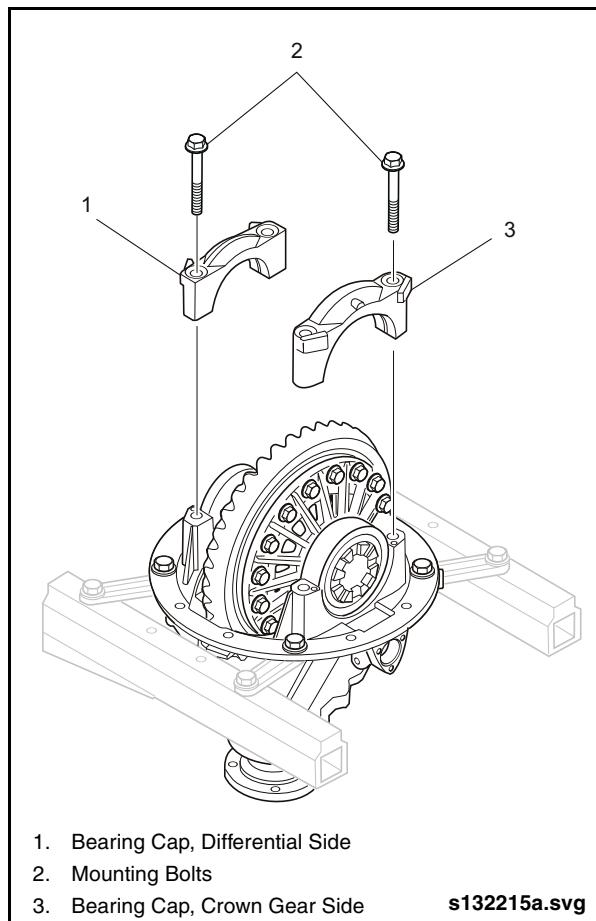

Fig. 2-49: Bearing Cap Installation
1. Refer to the markings made during removal and position the bearing caps in their original location. See "Fig. 2-49: Bearing Cap Installation" on page 46.